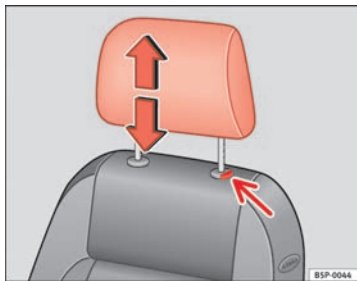

Fig. 94 Adjusting and removing the head restraints
- Press the button ⇒ fig. 94 (arrow).